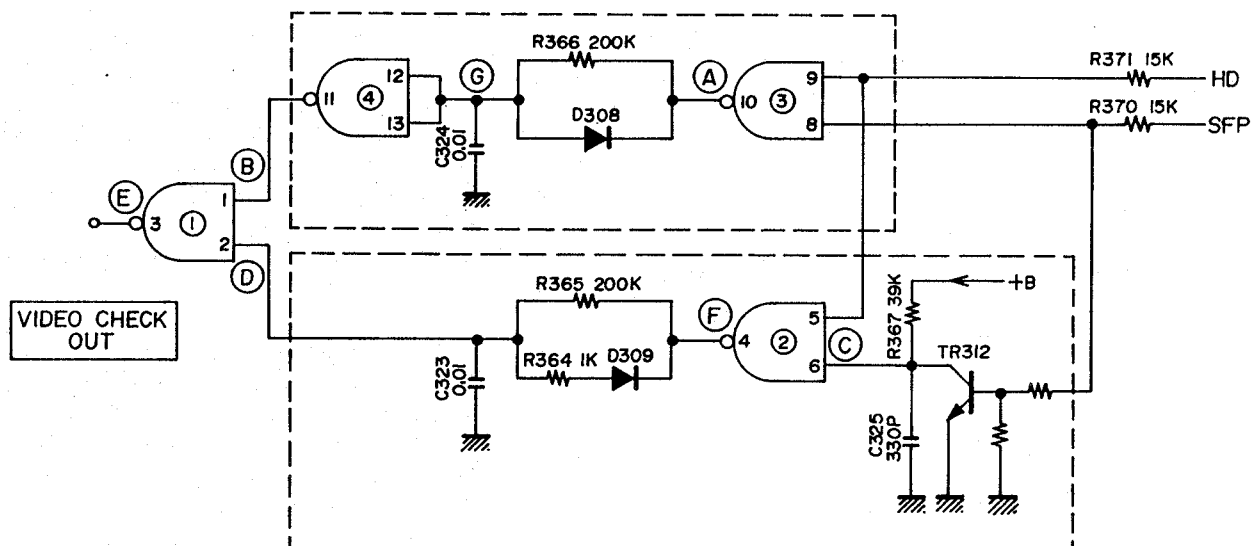

Fig. 29
The operation of the circuit is described by using Fig. 29.
In Fig. 29, SFP and HD are supplied from IC8 within the Video P.C Board, and SFP is  $\frac{1}{160}$  of 160 fH oscillated by VCO (SYNC. FRONT PULSE) and outputted from IC8 (4), and HD is the input video signal sync-separated. The output terminal is IC8 (18). Therefore, when the video signal exists, HD and SFP are in fixed phase relationship, but in the case of noise, SFP is the one free oscillated by VCO, and VD receives the input of noise only.